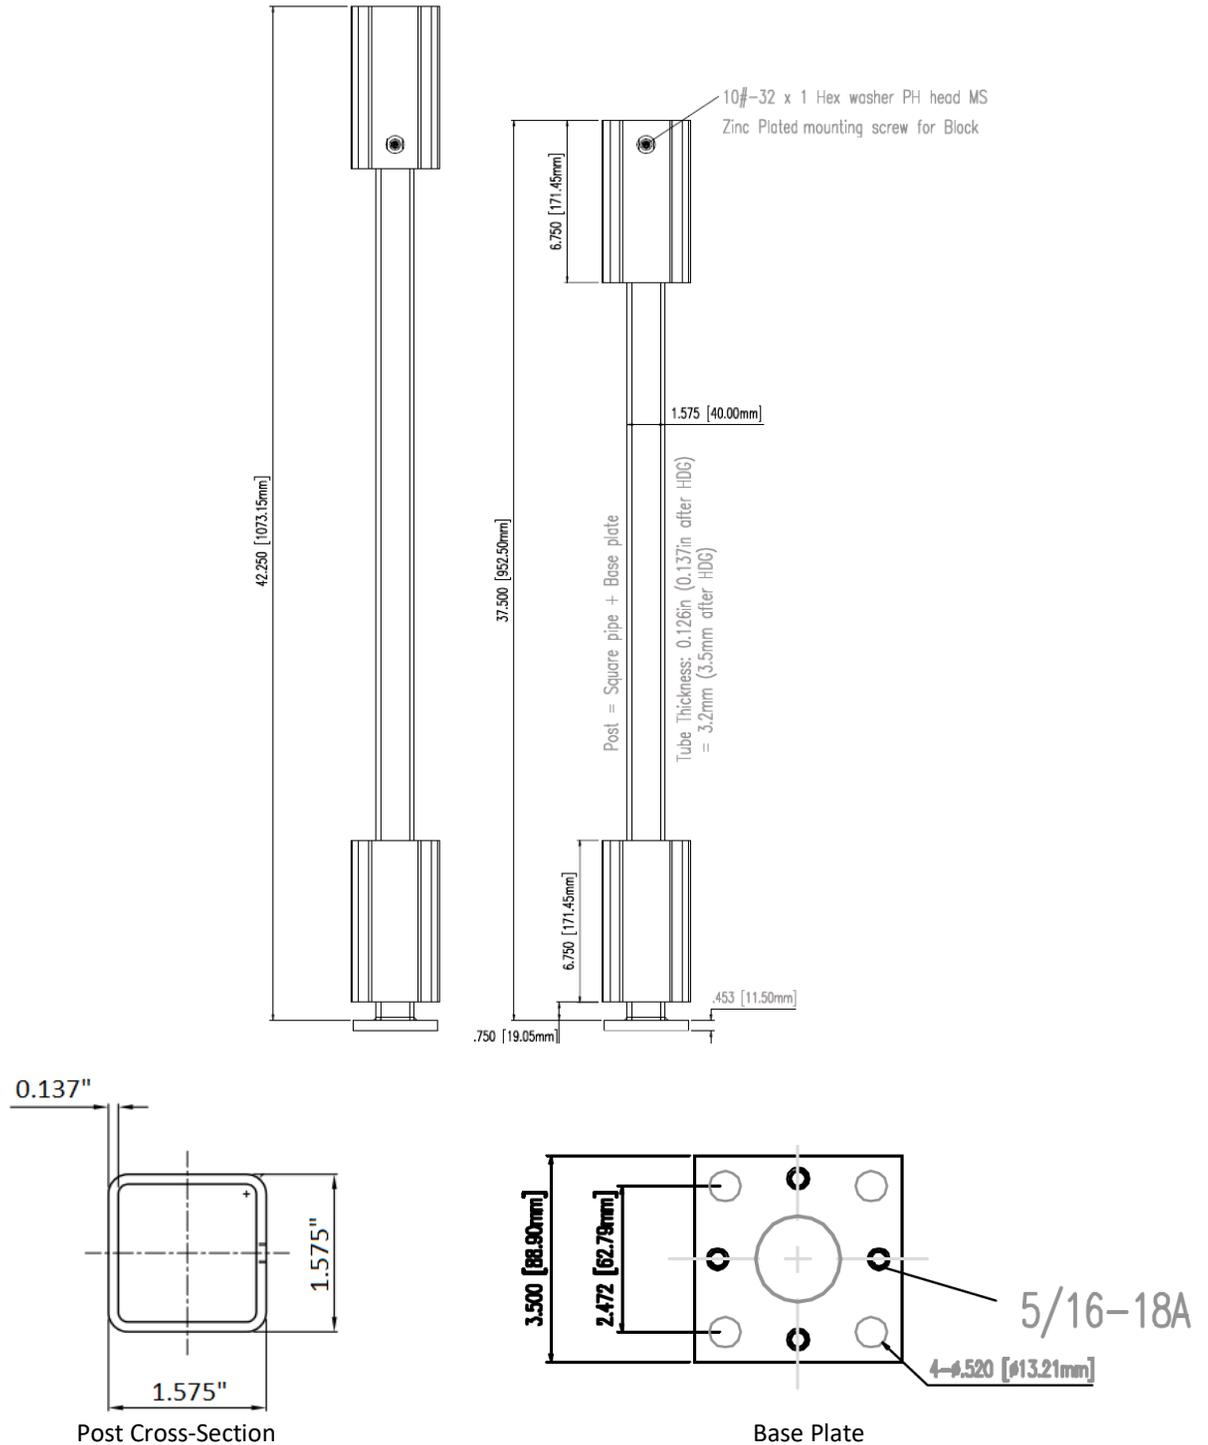

FIGURE 1 – ATLAS-PRO QUIK-MOUNT POSTS
3.3.1 Post – 1.575-inch-square by 0.137-inch-thick hollow steel tube (See Figure 1).
3.3.2 Base Plate – 3.5-inch-square by 0.472-inch-thick steel plate with (4) 0.52-inch-diameter holes at each corner (See Figure 1).